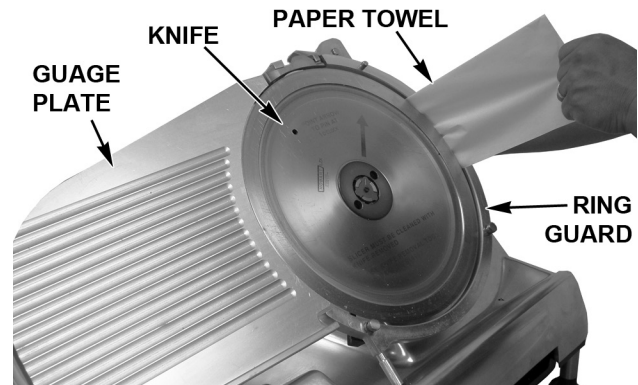

Fig. 17
- Clean completely around the Ring Guard by working a moistened, folded paper towel between the Ring Guard and the Knife (Fig. 17).